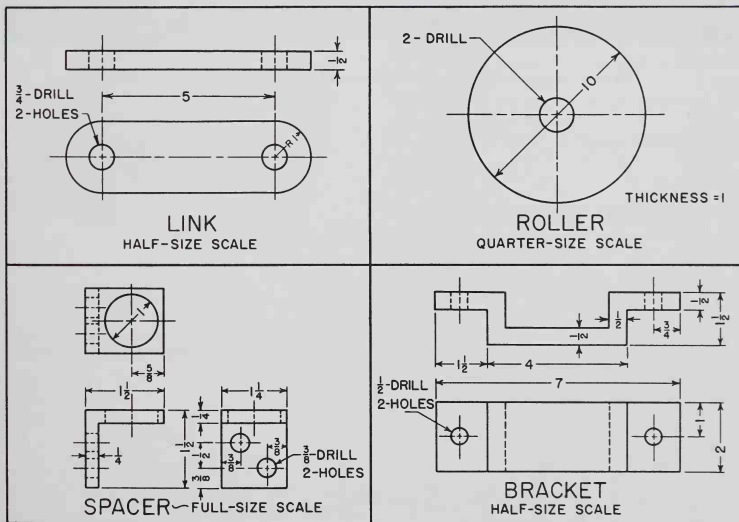

Fig. 8-17. Problems for oblique drawing.
1. In sections A and B, draw oblique views of two of the problems shown in Fig. 8-17, as assigned by your instructor.